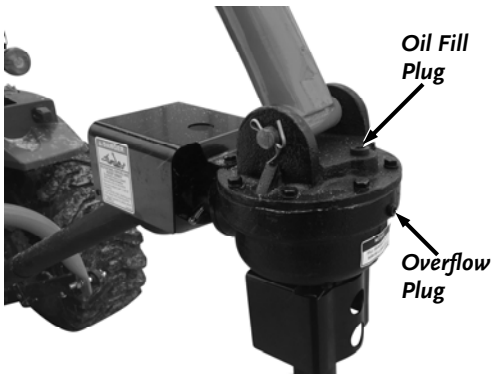

Figure 15
1. Remove the Oil Fill Plug from the top of the Gearbox using a 10mm Allen Wrench (**Figure 15**).